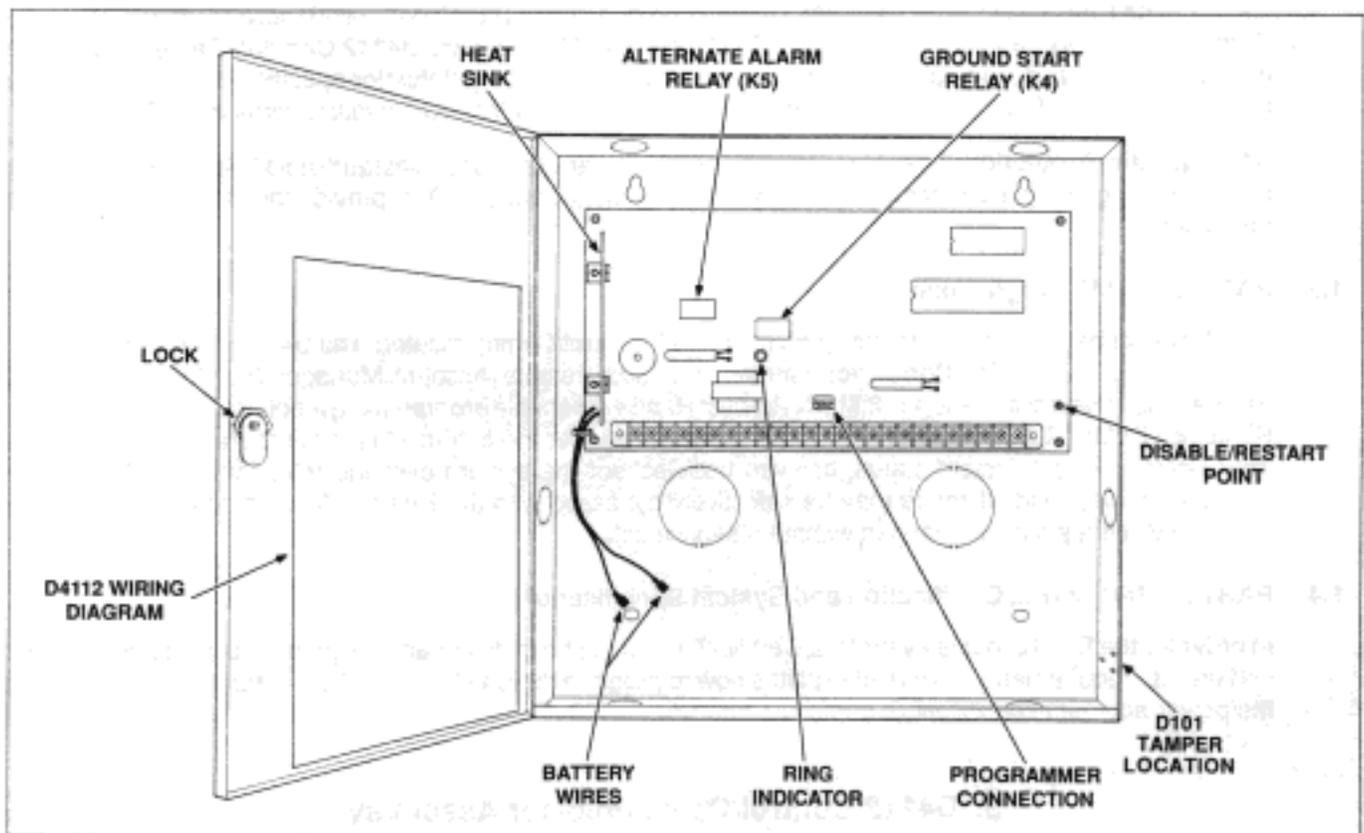
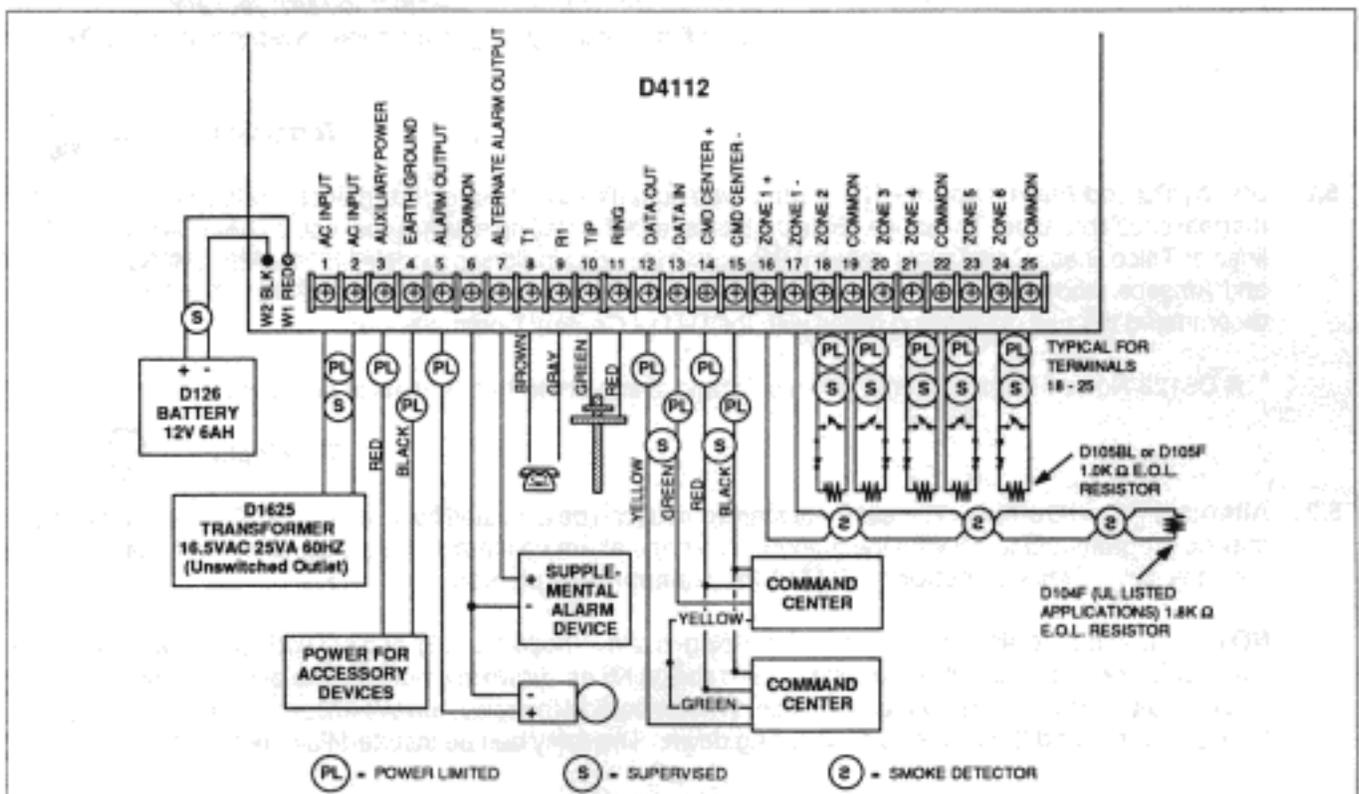

Figure 1: D4112 CONTROL/COMMUNICATOR ASSEMBLY
Figure 2: TYPICAL D4112 SYSTEM INSTALLATION
- 2.3 **Wiring Diagram** - Inside the D4112 enclosure is a wiring diagram label (see Figure 1). It also contains short descriptions of each terminal. Figure 2 displays a typical installation of the D4112 and accessories (for installing the D636A Command Center, refer to the *D636A Installation Instructions #74-05475-000*).
- 2.4 **Reset Point** - The D4112 disable/restart point is located in the lower right hand corner of the printed circuit assembly, to the right of the terminal strip (see Figure 1). Momentarily connect this point to terminal 25 (ground) to reset the Control/Communicator.
\*NOTE: It may take as long as 12 hours to charge the battery. The battery should be charged prior to installation, or it can be connected at the beginning of installation, so that it can charge while the installation procedure is completed. A Jumper connected to the Disable/Restart point (see Figure 1) will disable the D4112 and still allow the battery to charge.
**7.7 Installing a D420A Command Center** - The cable used to connect the Command Center to the D4112 can run no longer than a total combined length of 1000 feet when using 22AWG. A single D420A may be installed a maximum of 500 ft. from the D4112. Figure 2 depicts a typical installation using two D420A Command Centers.